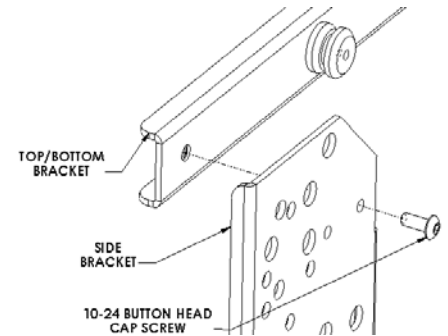
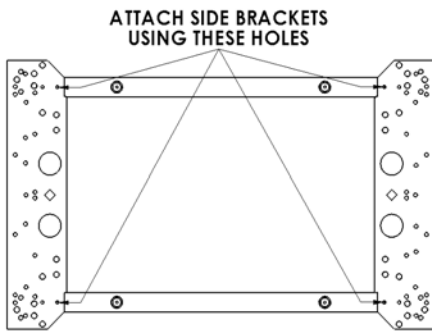
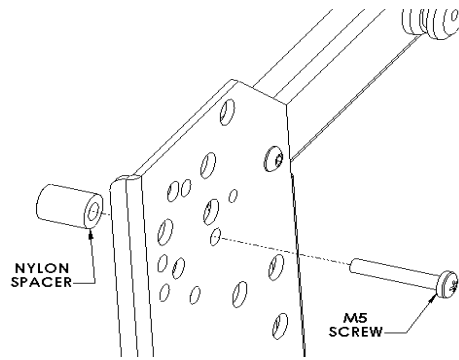
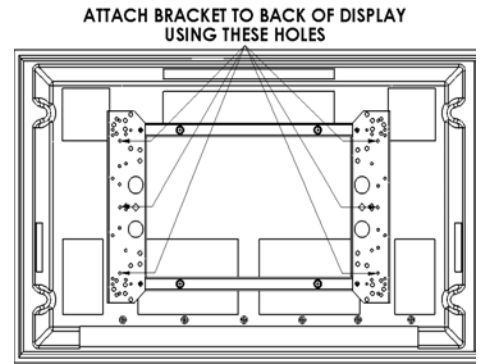

Figure 4
Figure 5
Figure 6
Figure 7
3. Place Nylon spacers on mounting holes on back of screen (see Figure 4 and Figure 5). Attach brackets to display using the M5 screws (see Figure 6 and Figure 7).